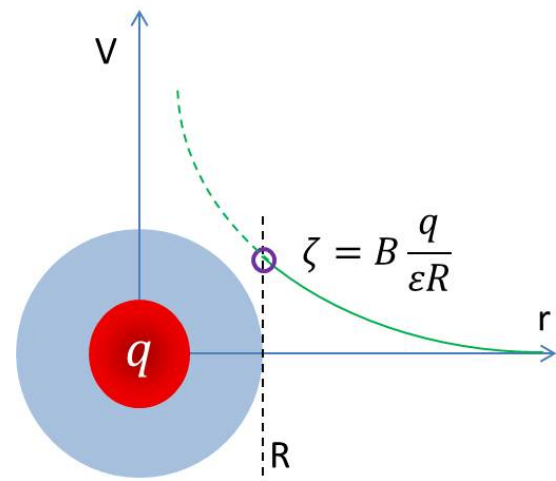

Figure 3: Zeta potential
where  $B$  and  $b$  are constant factors,  $\eta$  is solvent viscosity and  $\varepsilon$  is solvent dielectric constant.  $\zeta$  has the dimension of an electrostatic potential like  $V$  for an equivalent charge  $Bq$  (see (2) and **Figure 3**); it is called the Zeta potential. In fact,  $\zeta$  represents the electrostatic potential measured at a distance  $R$  from the center of the particle. According to the Stokes model, the hydrodynamic radius  $R$  of the particles is the physical radius of the particles plus the surrounding ions/molecules environment "stuck" to the particle (see **Figure 3**). Therefore, the potential of the particle at this *new* radius, determining the amplitude of interaction with the other particles, is a fundamental characteristic of the stability of solution. Indeed, the lower the zeta potential, the easier it is for two particles to approach each other and eventually to aggregate together, so the less stable is the colloidal suspension.